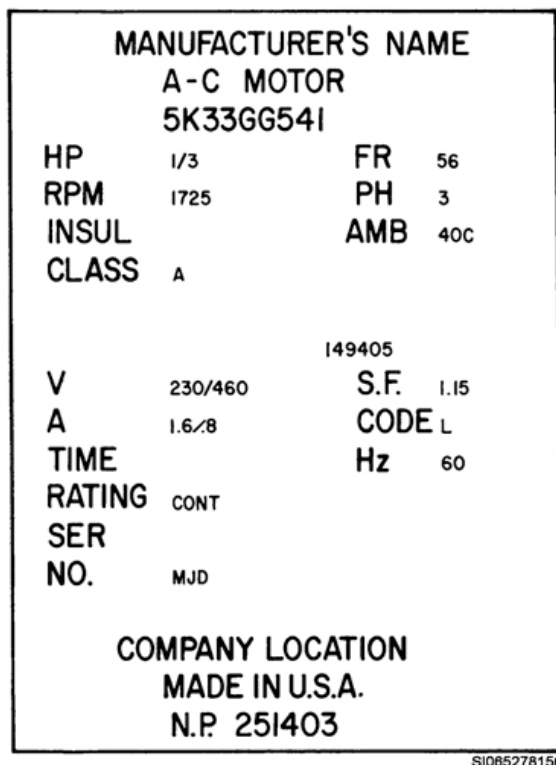

Figure 2-52. Motor data plate.
By the rules of the NEC, every motor must be equipped with a data plate (fig. 2-52). This data plate must be marked with certain information relative to the motor. This information is necessary in troubleshooting, testing, and balancing systems as well as motor replacement. Listed below, in no specific order, is the information required on a motor data plate:
7. Code letter. The code letter is used for determining branch circuit over current protection by using table 430-152 of the NEC. Code L is shown in figure 2-52.